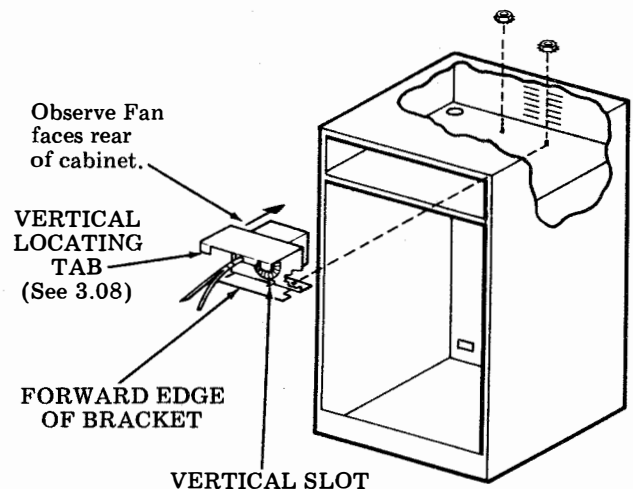

Fig. 2
3.03 Slide in fan bracket (fan to rear) into the upper shelf until the vertical slots line up with weld screws. Move bracket back until vertical slots are through the weld screws and the horizontal slots stop against the weld screws. See Fig. 2.